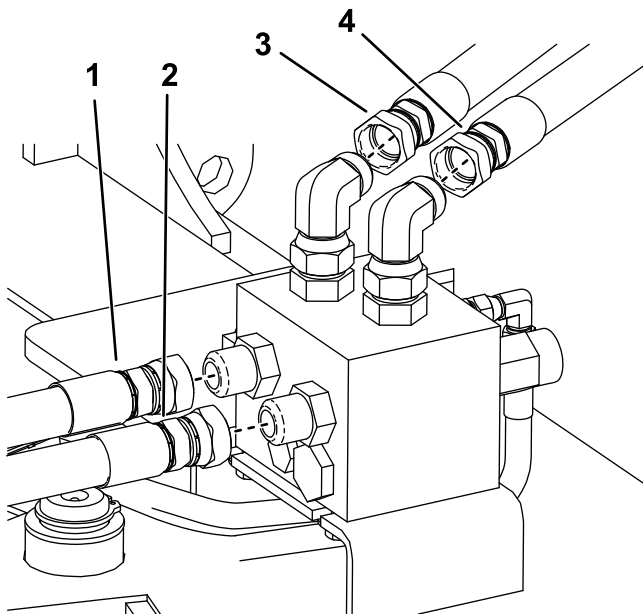

Figure 3
6. Install the attachment hoses directly to the straight fittings in the rear of the manifold assembly (Figure 3).
7. Remove the angle fittings from the power rake hoses and install the hose ends to the angled fittings on top of the manifold assembly (Figure 3).